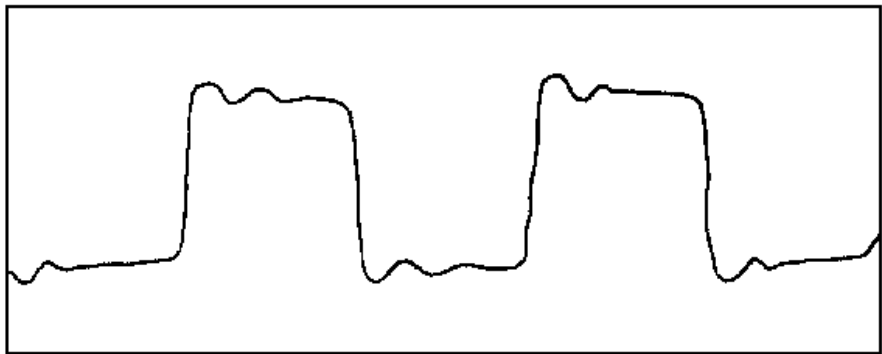

Figure 5 - 25 Hz Squarewave (Typical)
1. Set up S3 for Test (B) as shown in Table 4, and reset the GETC. Make sure the receiver is squelched.
3. Check for a 2 volt peak-to-peak 25 Hz filtered square wave at J19-5 (Subaudible data encode port). See Figure 5 for expected output.
4. Adjust R78 (DATA SYM ADJ) on the exciter module until the best square wave (25 Hz) is obtained on the service monitor. This should correspond to a minimum deviation reading. See Figure 5 for typical waveform.